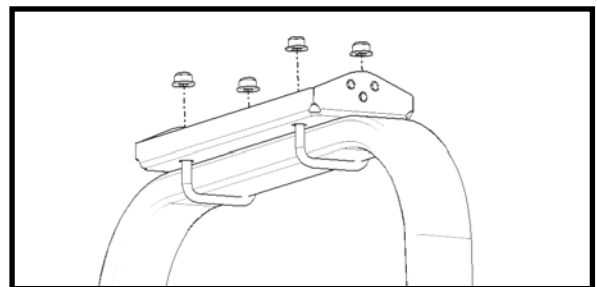

Fig. 2 (Attach ROPS Plate)
2. See fig. 2. Position the ROPS plate on top of the ROPS, with the slots for the U-bolts to the rear of the tractor. If the threads of the U-bolts do not stick down through the ROPS plate, install 4 of the 16 supplied 1/2" washers over each leg of the U-bolts. Install nuts onto the U-bolts. Adjust the position of the ROPS plate so U-bolts are in contact with the front face of the ROPS (to ensure it is parallel with the ROPS). If required, rotate the U-bolts in the slots so they are tight to the back of the ROPS. Center the ROPS plate left to right and tighten the U-bolts to 22 ft.-lbs.